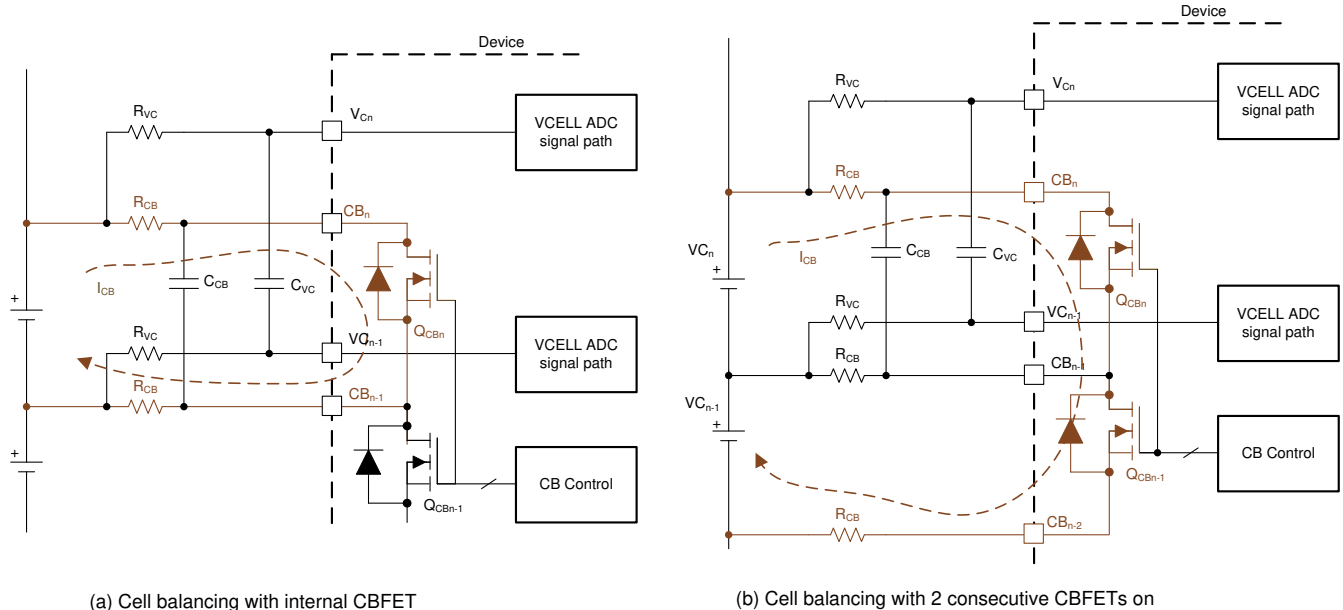

Figure 9-13. Internal Cell Balancing and the Flow of Balancing Current
- Balancing with no consecutive CBFET on (Figure 9-13 (a)): $I_{CB} = V_{Cell} / ((2 \times R_{CB}) + R_{DS(on)_{QCB}})$
- Balancing with two consecutive CBFETs on (Figure 9-13 (b)): $I_{CB} = (\text{Sum of two } V_{CELL}) / ((2 \times R_{CB}) + R_{DS(on)_{QCBn}} + R_{DS(on)_{(QCBn-1)}})$
- Manual balancing control (*[AUTO_BAL] = 0*): With this method, the device will turn on the CBFETs that have non-zero balancing timer settings once *[BAL_GO] = 1* is received. There is no odd and even channel switching during the cell balancing and the *BAL_CTRL1[DUTY2:0]* setting does not apply under this control. Host MCU can enable two consecutive CBFETs with this method and a maximum of eight CBFETs can be enabled. When two consecutive CBFETs are enabled with both channels connected to battery cells, the balancing current is significantly different compared to no adjacent CBFET being on (Figure 9-13). The *DEV_CONF[NO_ADJ_CB]* bit is provided to avoid inadvertent enabling of an adjacent CBFET for a system that is not intended to have an adjacent channel on for balancing. In this control method, the device is relying on the MCU to enable the proper channels. If the MCU sends *[BAL_GO] = 1* but the CBFETs are enabled with an invalid condition, the device will not start balancing and will set *BAL_STAT[INVALID_CBCONF] = 1*. Invalid configurations are either: